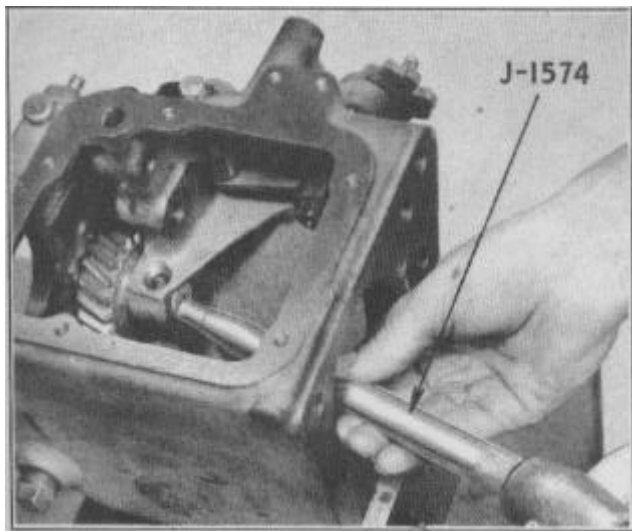

FIGURE 13
20. Working through mainshaft bearing hole in front face of case drive-out reverse idler gear shaft with Driver J-1574, Figure 13. When shaft is driven all the way out, lift reverse idler gear from case.